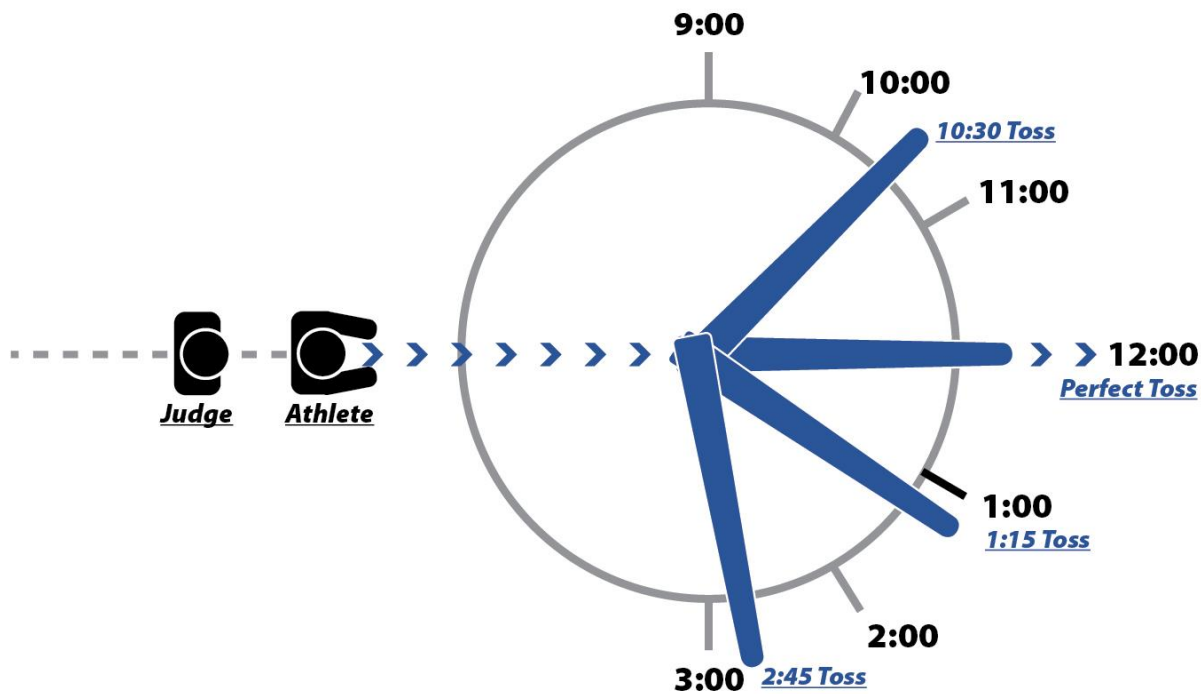

Figure 2. Caber Judging, Top View
- 4.9.** The "clock face method" of judging shall be used (see figures 2 and 3).